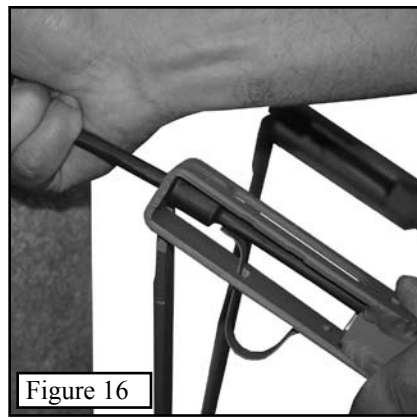

Figure 16
Step 3. Pull the cable towards the back of the tree and “seat” one of the cable stops against the back of the bracket, as shown in **Figure 16**. The QuickDraw cable spring will “lock” into place behind one of the cable stops.